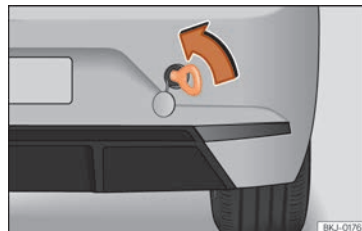

Fig. 102 Right side of the rear bumper: towline anchorage screwed in.
- Screw the towline anchorage into the screw connection as far as it will go » **Fig. 102** and tighten with the wheel brace.